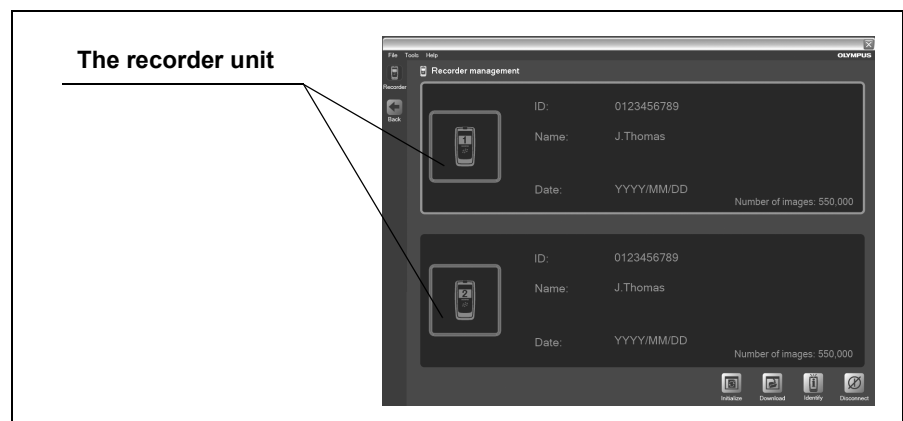

Figure 5.60
1. On the recorder management screen, select the recorder unit you wish to remove (see Figure 5.60).